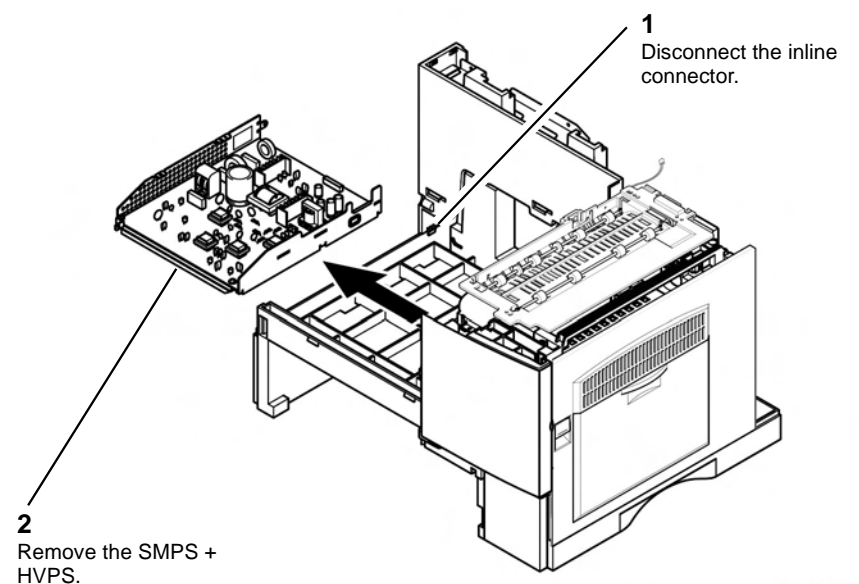

Figure 2 SMPS + HVPS removal
4. Remove the SMPS + HVPS, Figure 2.